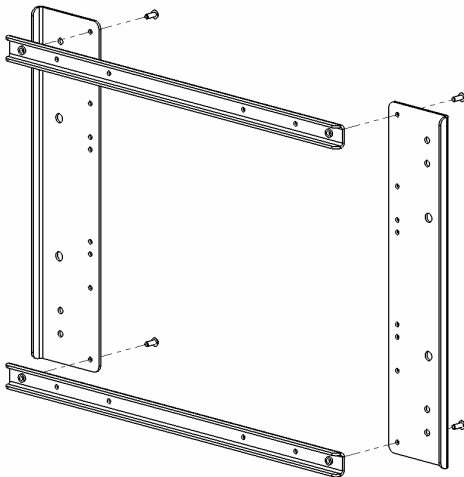
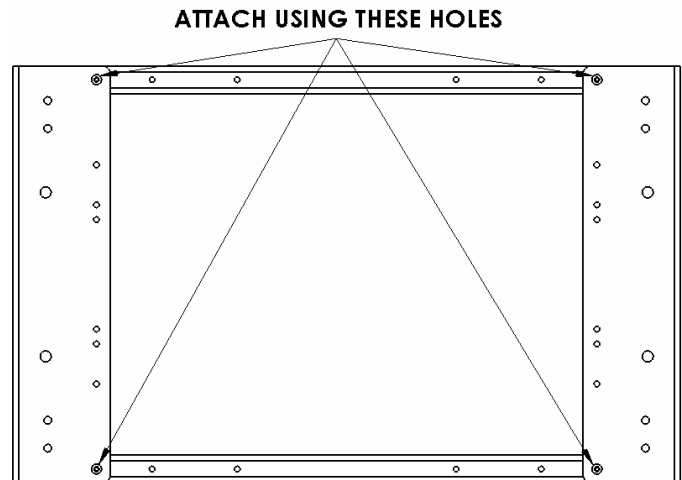

Figure 2
Figure 3
1. Attach side plates to horizontal bars. Use 10-24 button head cap screws and 1/8" hex key. (four places) (see Figure 2 & Figure 3).